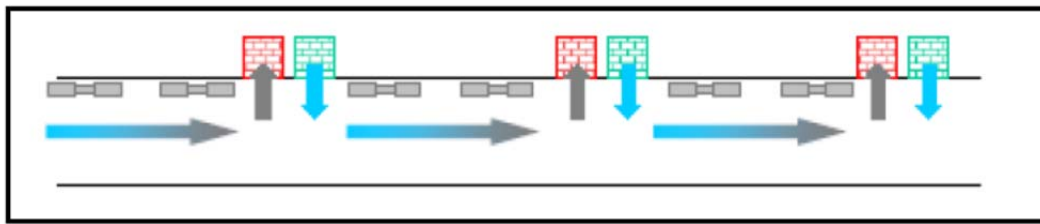

Figure 11 – Longitudinal ventilation
- Longitudinal ventilation type with local massive air extraction stations. the objectives are: (1) regular ventilation - (2) control of air flow in case of fire and containment of smoke spread;
- 600 m long ventilation sections, bounded by supply and exhaust shafts containing axial flow fans (**Figure 11**).